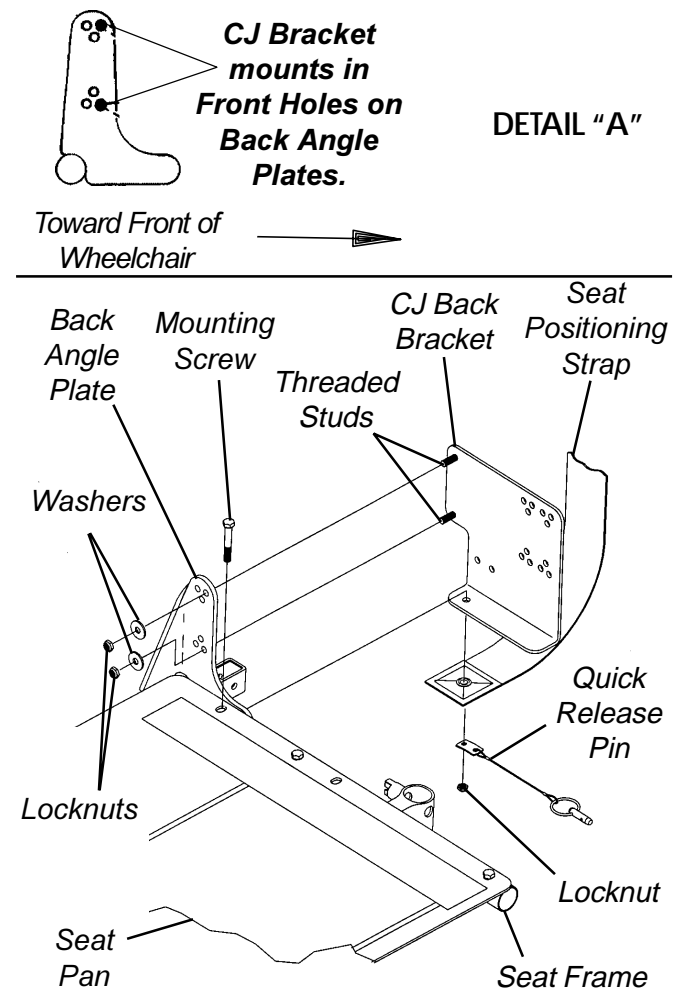

FIGURE 1 - REMOVING/INSTALLING CJ BACK BRACKETS
**REMOVING/INSTALLING CJ BACK BRACKETS (FIGURE 1)**
2. Install the threaded studs of the CJ back bracket through the back angle plates as shown in FIGURE 1.